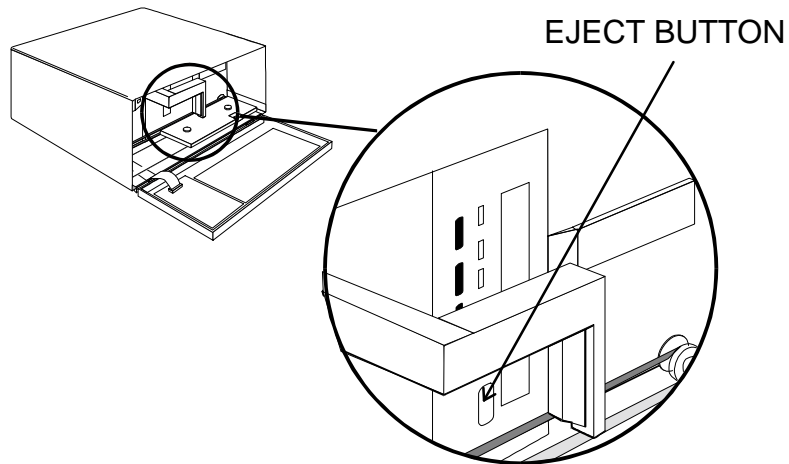

Figure 12. Drive Eject Button.
- Press the eject button on the drive (see Figure 12). It may take 30 seconds or more for the drive to eject the cassette.
- Press the eject button on the drive (see Figure 12).
- If the drive does not eject the cassette when the program is finished, open the VLS door (the gripper arm should still be fully extended) and press the drive eject button (refer back to Figure 12 if necessary). It will take about 30 seconds for the drive to eject the cassette.